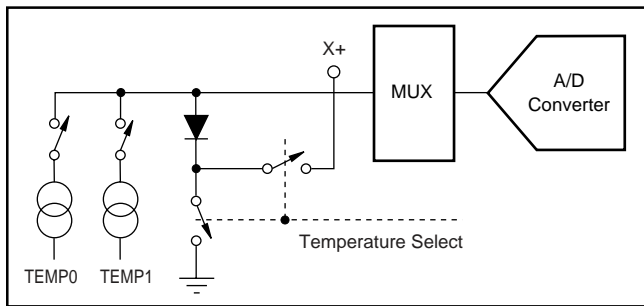
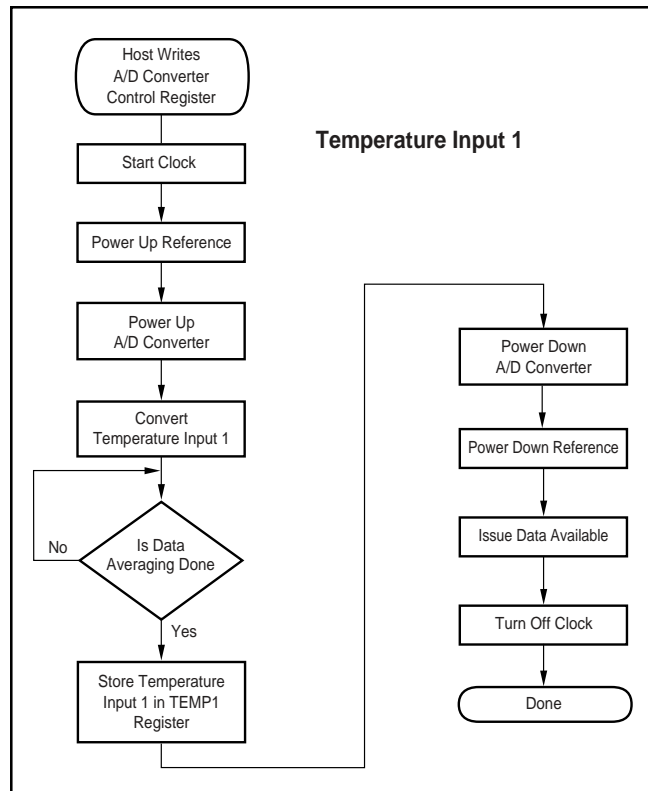

FIGURE 18. Functional Block Diagram of Temperature Measurement Mode.
FIGURE 19. Single Temperature Measurement Mode.
The TSC2200 offers two modes of temperature measurement. The first mode requires calibration at a known temperature, but only requires a single reading to predict the ambient temperature. A diode, shown in Figure 18, is used during this measurement cycle. This voltage is typically 600mV at +25°C with a 20µA current through it. The absolute value of this diode voltage can vary by a few millivolts; the temperature coefficient (TC) of this voltage is very consistent at  $-2.1\text{mV}/^\circ\text{C}$ . During the final test of the end product, the diode voltage would be stored at a known room temperature, in system memory, for calibration purposes by the user. The result is an equivalent temperature measurement resolution of  $0.3^\circ\text{C}/\text{LSB}$ . This measurement of what is referred to as Temperature 1 is illustrated in Figure 19.